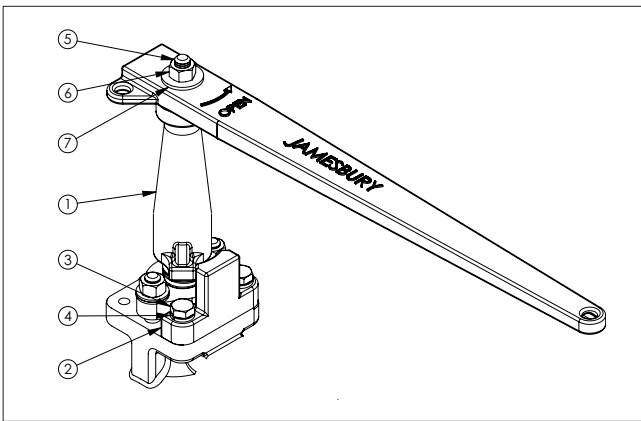

Figure 14. Stem Extension
2. Lower the handle stop (2) straight down in line with the valve stem until it is flat on the valve bonnet, and both mounting holes align with tapped holes on the valve (see **Figure 14**).
3. Insert the stop screws (3) and lock washers (4) into the mounting holes and thread into the valve until finger tight only.
4. Screw threaded rod (5) into tapped hole on top of stem.
5. Aligning the slot in the stem extension (1) with drive on the stem, lower the stem extension straight down over the threaded rod (5) and in line with the valve stem until it is completely engaged. If the stem extension (1) interferes with the stop (2), move the stop slightly to remove interference. DO NOT rotate stem!
6. Aligning the slot in the handle with drive on the stem extension (1), lower the handle straight down over the threaded rod (5) and in line with the stem extension drive until it is completely engaged. **NOTE:** When looking down at the top of the valve, the cast lettering and “OPEN” arrow on the handle should be visible. If they are not visible the handle is installed upside down.
7. Install the washer (7) over the threaded rod onto the handle. Thread handle nut (6) onto threaded rod and tighten handle nut (6) to torque value listed in **Table 5**.
9. Rotate stop (2) until the stop contacts the side of the stem extension stop boss (1) (see **Figure 14**).